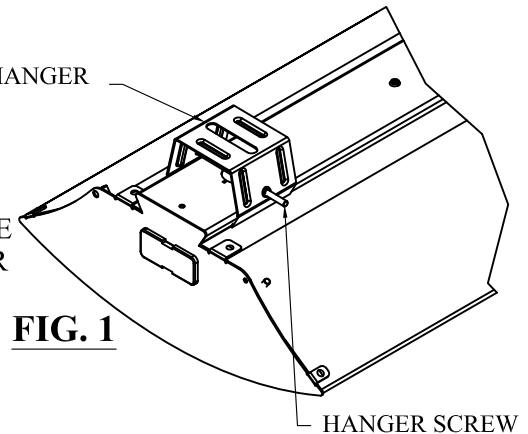

FIG. 1
STEP 2: HANG FIRST FIXTURE BY SLIDING FIXTURE TO DESIRED LOCATION AND TIGHTENING HANGER SCREW TO SECURE HANGER TO FIXTURE. (FIG. 1)